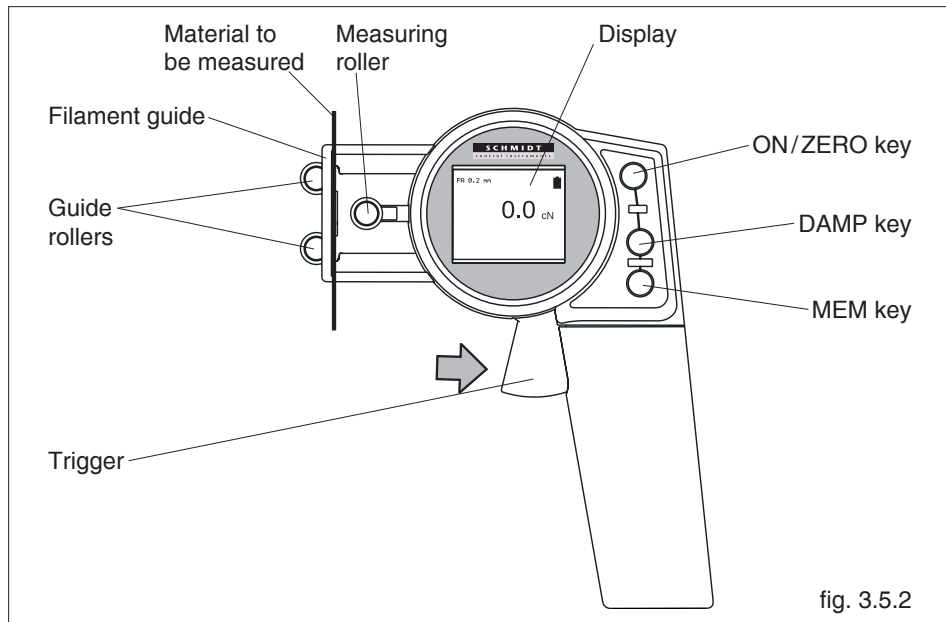

fig. 3.5.2
- Capture the material to be measured with the filament guide (fig. 3.5.2).